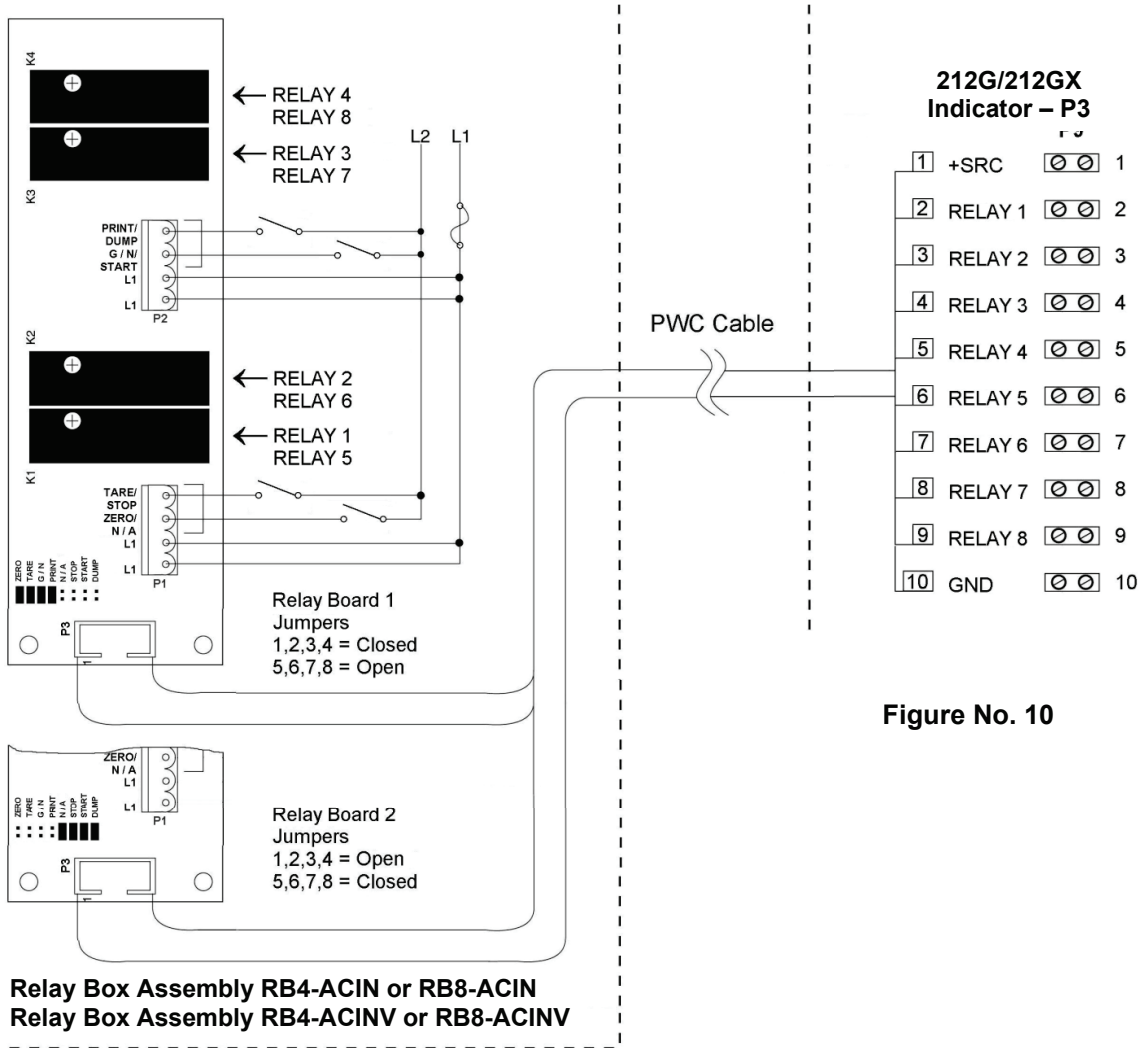
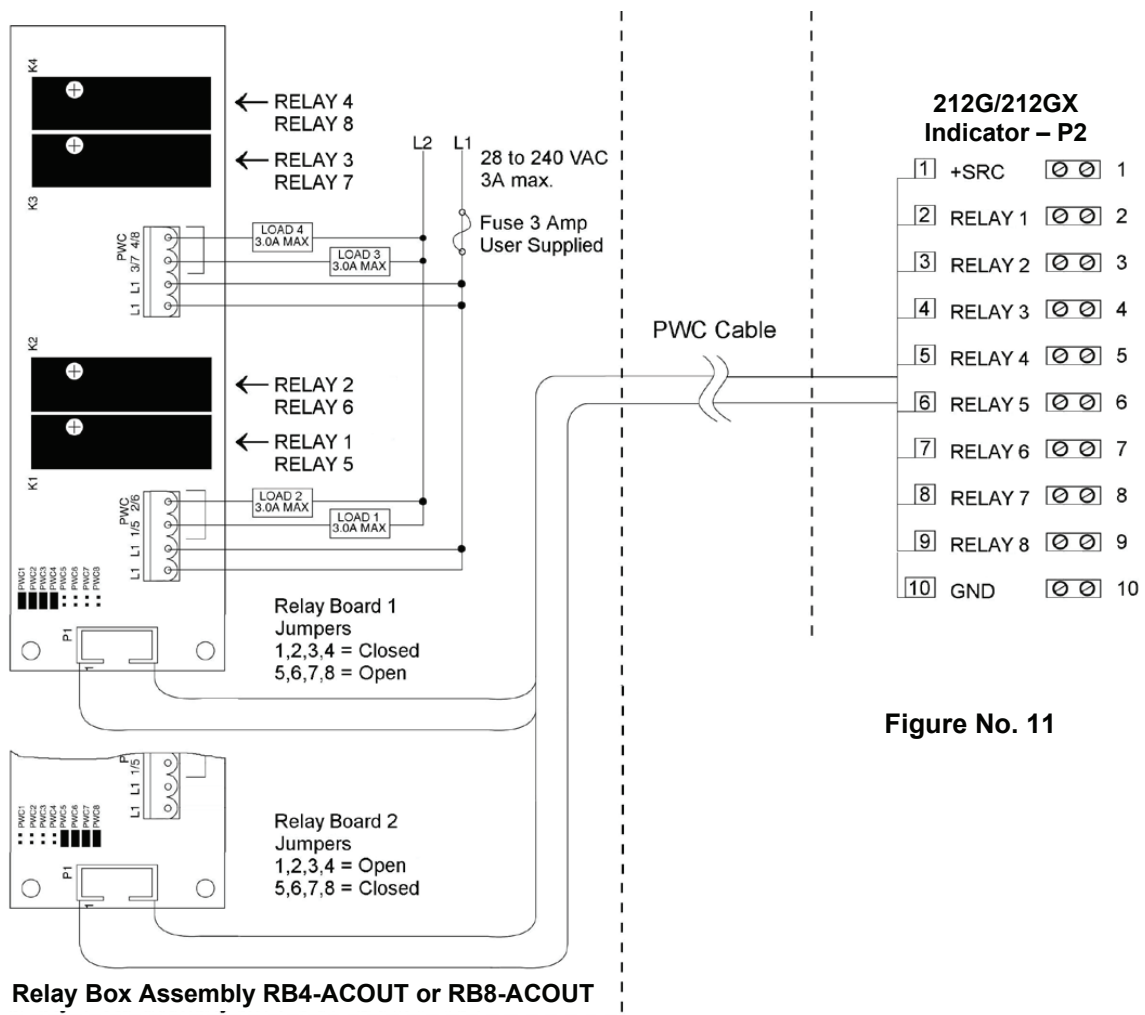
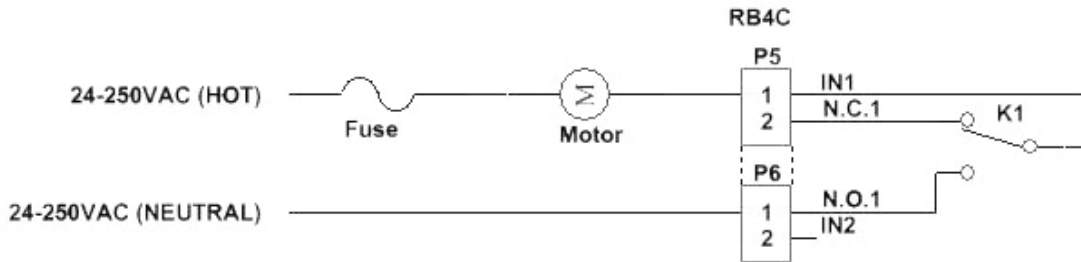
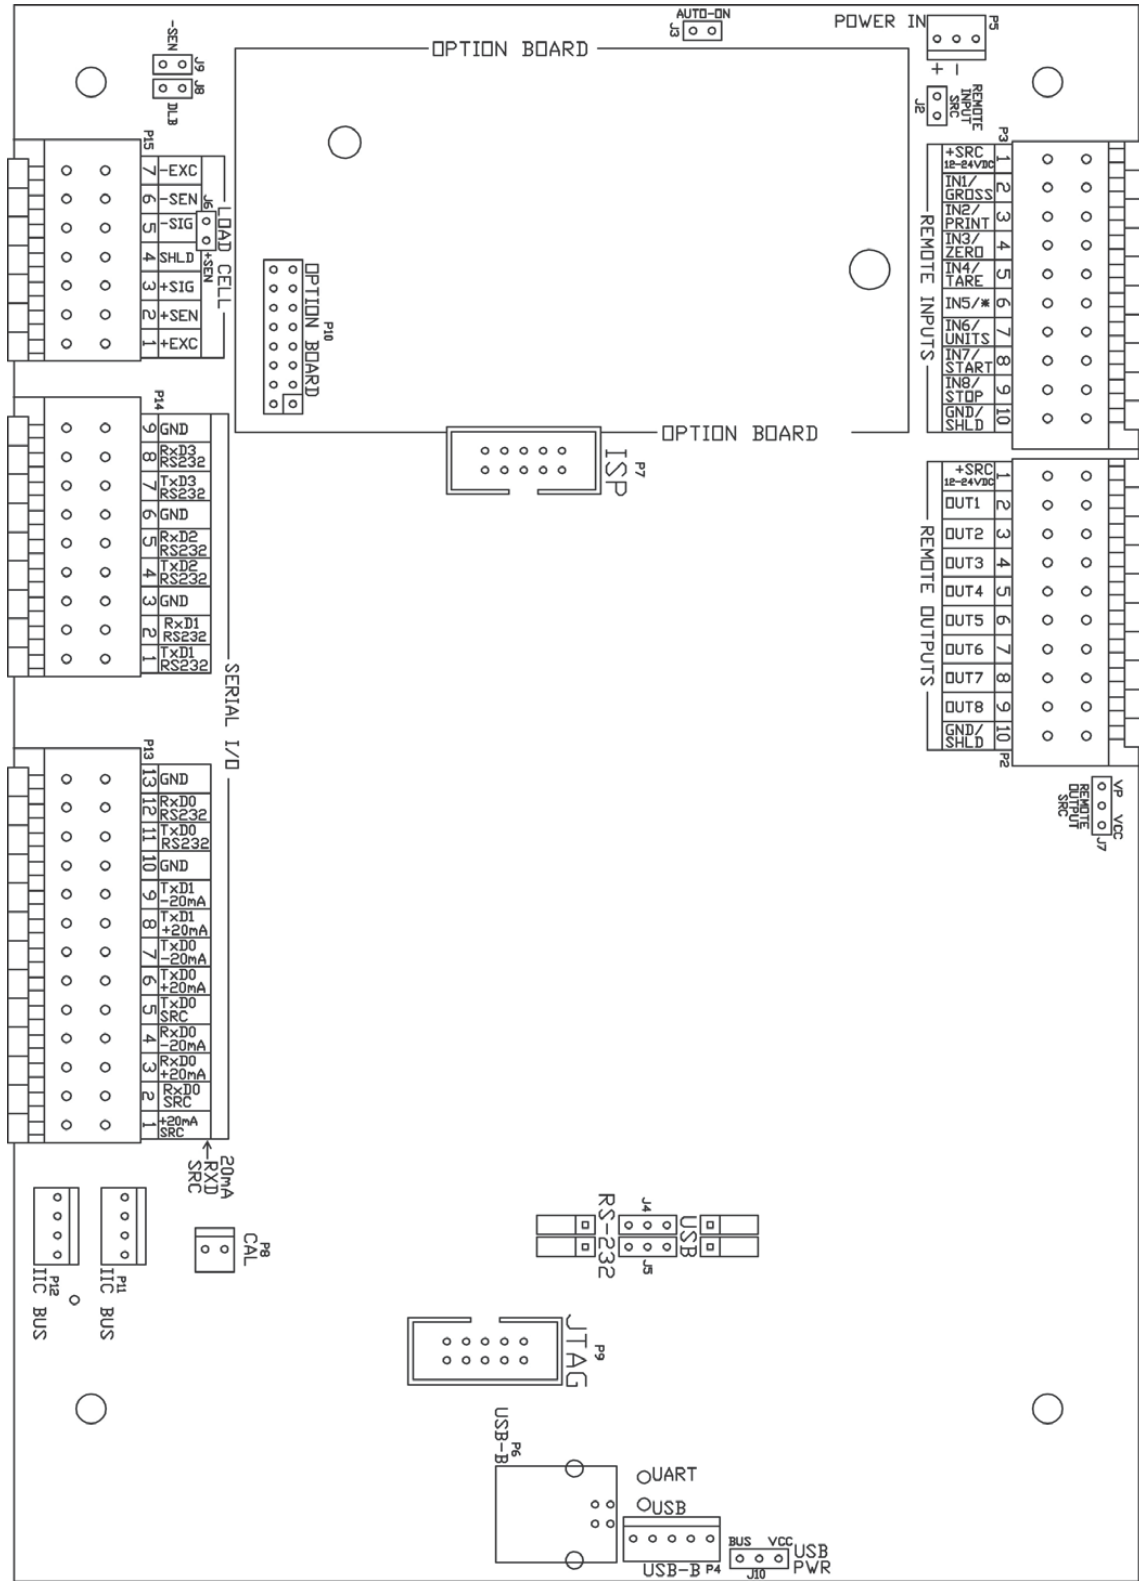

Figure No. 10
Figure No. 11
Figure No. 13
Figure No. 15
7. Plug the USB cable connector onto the USB-B, P4 header, referring to Figure No. 15 for the location of P4. Tighten the gland cable nut on the USB cable.
4. Plug the USB cable into the USB-B connector P6. See Figure No. 15 for the location of P6.
Refer to Figure No. 10 for the AC Input Relay board, Figure No. 11 for the AC Output Relay board, Figure No. 13 for the RB4C Relay board and Figure No. 15 for the Main PCB.
Included with the I/O are 4 programmable inputs that may be used to remotely (up to 100 feet) initiate various functions within the indicator. These inputs are accessed via a terminal block (P3) on the back of the PC board (see Figure No. 15). The 8 inputs are defined as follows:
The AC Input Relay Board(s) are mounted in an external junction box for use with the 212G/212GX Indicator. The RB4-ACIN (115 VAC) or RB4-ACINV (230 VAC) contain one board and supports 4 inputs (jumper selectable). The RB8-ACIN (115 VAC) or RB8-ACINV (230 VAC) contain two boards and supports seven inputs that are jumper selectable. The relay board used in the 115 VAC versions is Cardinal p/n 8200-C324-0A. The 230 VAC version uses relay board Cardinal p/n 8200-C324-1A. Connect the devices as shown in Figure No. 10.
The Remote Output SRC jumper J7, when connected, allows the 212G/212GX indicator to supply (source) VP (15VDC) or VCC (5vdc) to a solid-state relay or other load of 200 ohms or greater. The positive connection from the relays must be connected to the PWC connector negative wire from the relays to the GND pin. See Figure No. 15 for jumper and REMOTE OUTPUTS connector location.
6. Connect each of the wires to the REMOTE OUTPUTS terminal block (P10) referring to Figure No. 15 for terminal block locations.
The AC Output Relay Boards are mounted in an external junction box for use with the 225 Indicator and can be purchased from Cardinal. The RB4-ACOUT contains one board and supports four outputs (jumper selectable). The RB8-ACOUT contains two boards and supports eight outputs. The relay board used in both is (Cardinal p/n 8539-C062-0A). Connect the devices to be controlled as shown in Figure No. 11.